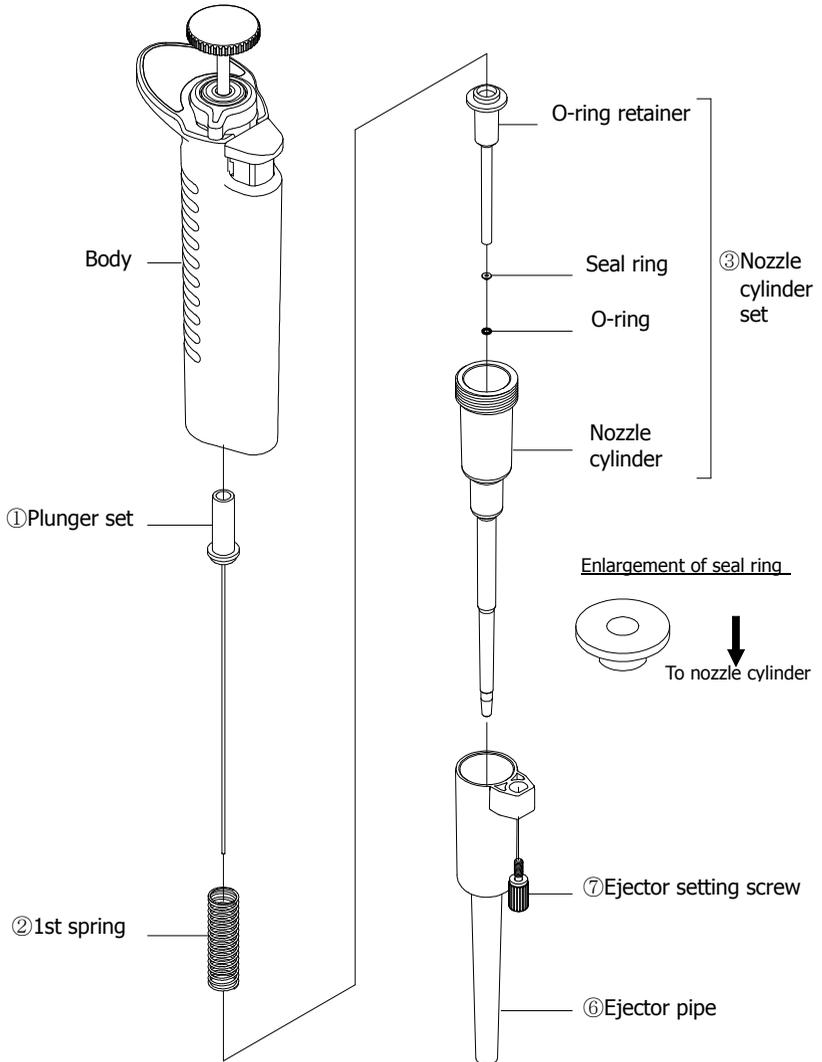
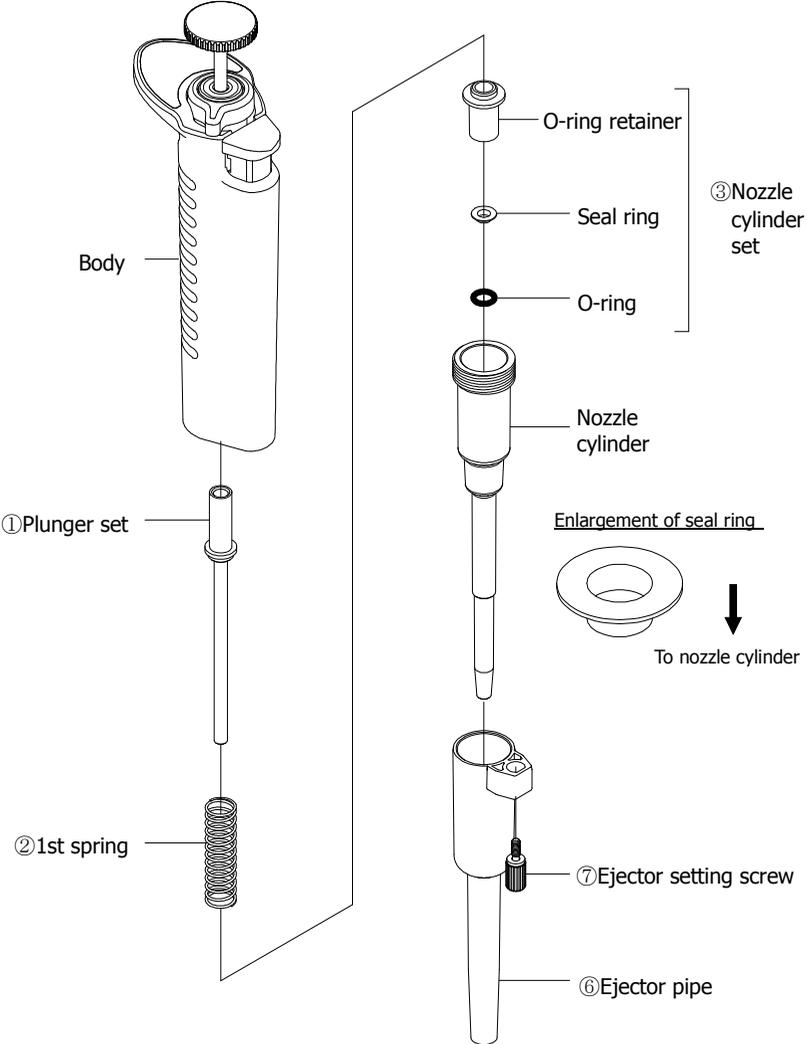
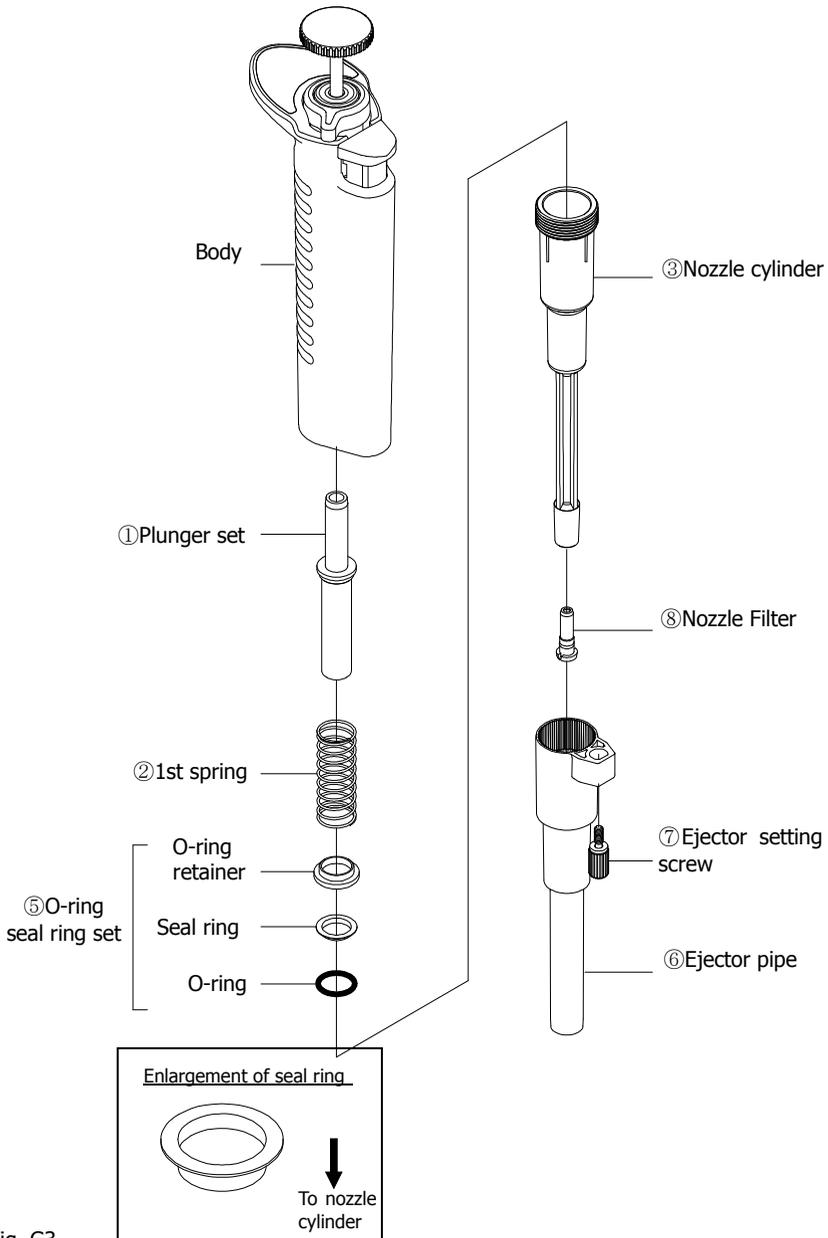

Fig. G1
Fig. G2
Fig. G3
② Turn the nozzle cylinder counterclockwise to remove it, as it is screwed into the main body.
③ Remove internal parts one after another.
- 2ul-1000ul: Fig.G1, G2, G3
① Reassemble nozzle cylinder.
- 2, 10, 20ul: Fig. G1, 100, 200ul: Fig. G2, 1000ul: Fig. G3
② Fit the ejector pipe to the body.
- 2, 10, 20ul: Fig. G1, 100, 200ul: Fig. G2 1000ul: Fig. G3